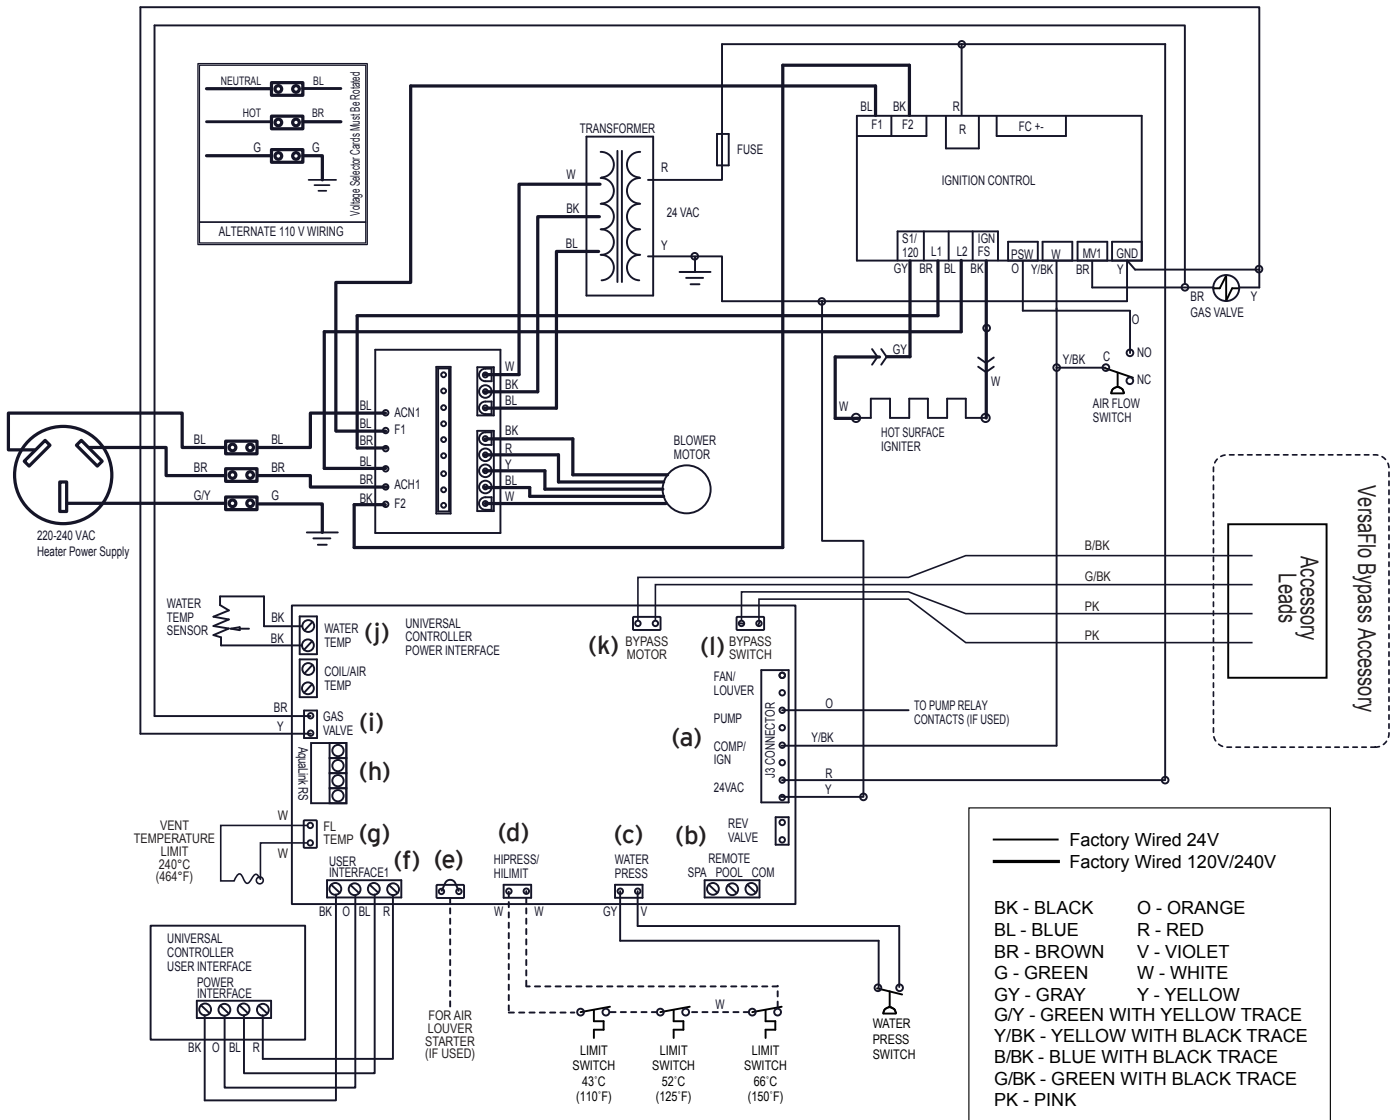

Figure 12. JXi Connections/ Schematic Wiring Diagram
Refer to *Figure 12* for a complete diagram of wiring connections and terminals.
- Connect the wiring from the pool/spa control system to the heater remote control terminal. See *Figure 12* item “b”.
- Connect the two wires to Pool and Common (not Spa) on the J6 terminal bar. See *Figure 12* item “b”.